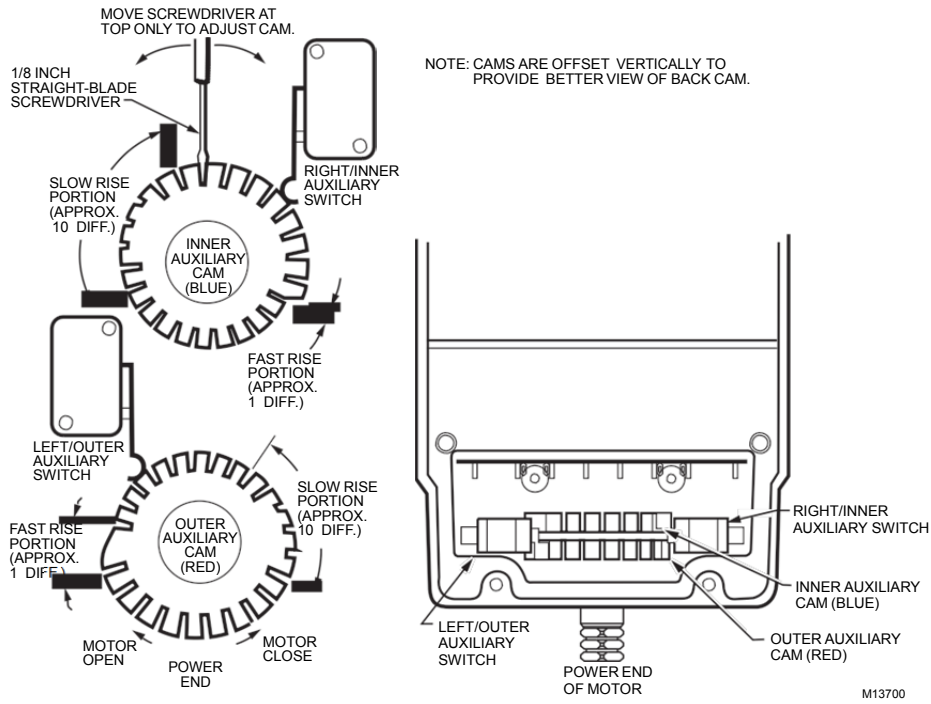

Fig. 14. Auxiliary switch adjustment.
- 1. Insert 1/8 in. screwdriver blade into a slot on cam and move the screwdriver top as far as possible in the required direction. See Fig. 14.*